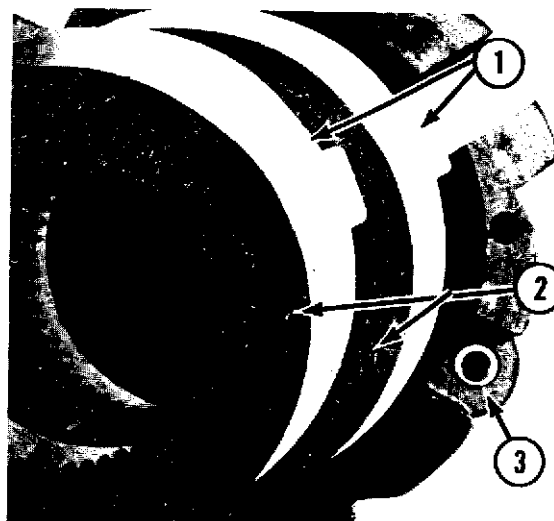
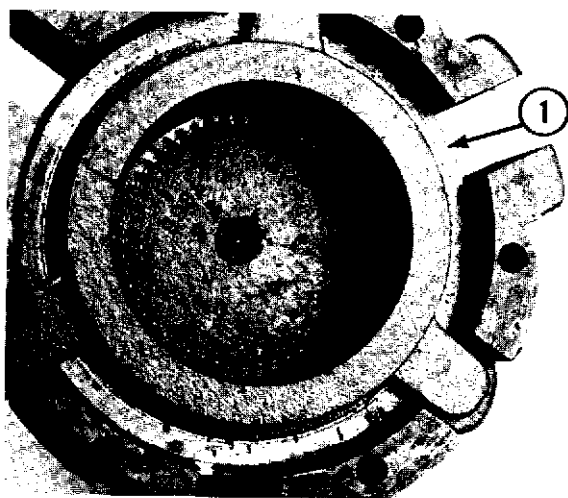

Fig. 9-11
Fig. 9-10
- (5) Remove the pressure plate (1, Fig. 9-10), steel discs (1, Fig. 9-11) and inner discs (2, Fig. 9-11).
- (6) The three release springs (3, Fig. 9-11) and spring discs can now be removed.